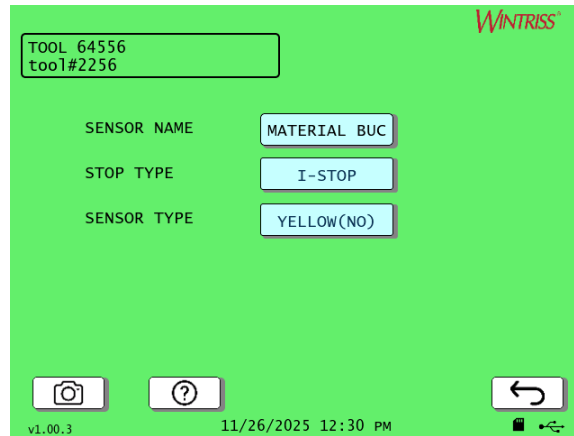

Figure 4-15. Sensor Program Screen
4. Press the sensor you want to program. The sensor program screen appears, Figure 4-15.